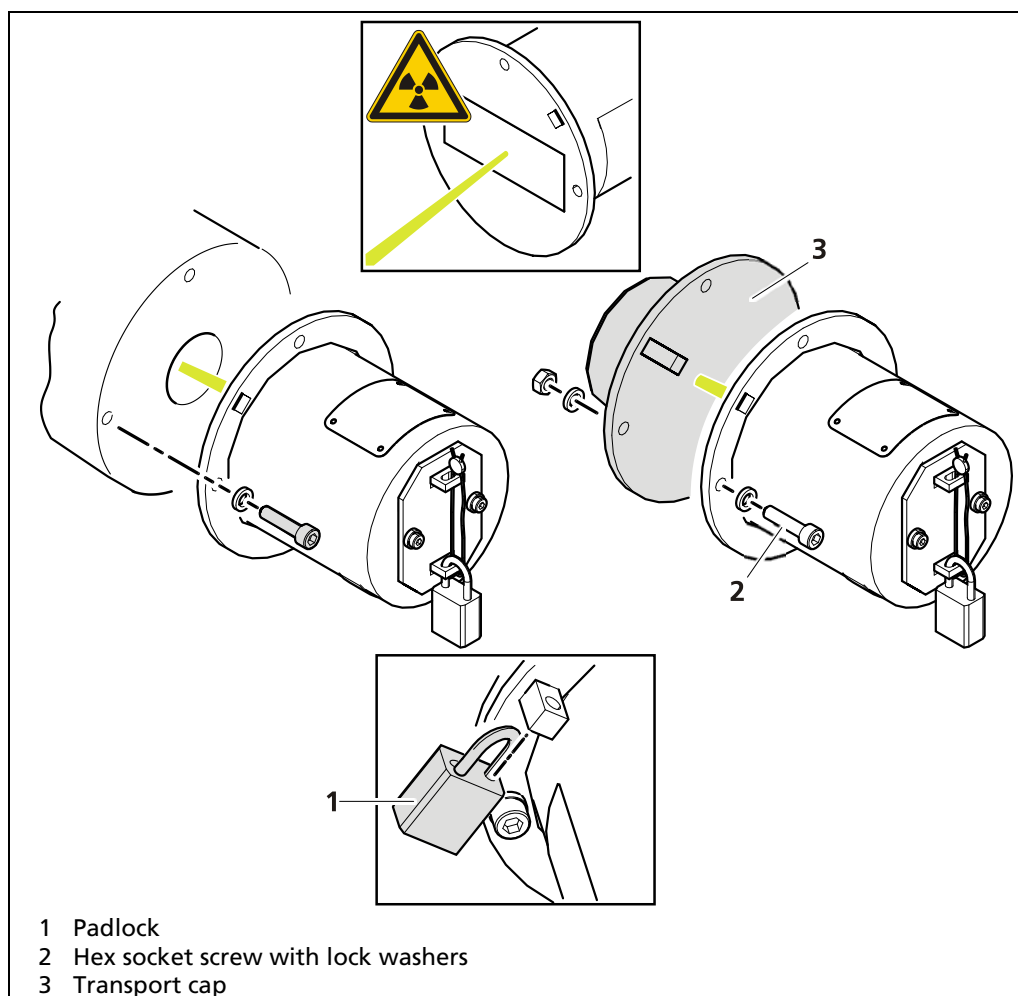

Fig. 12 Disassemble the shield
3. Immediately install and screw the transport cap (Fig. 12, item 3, item 2).
4. Attach the padlock (Fig. 12, item 1).